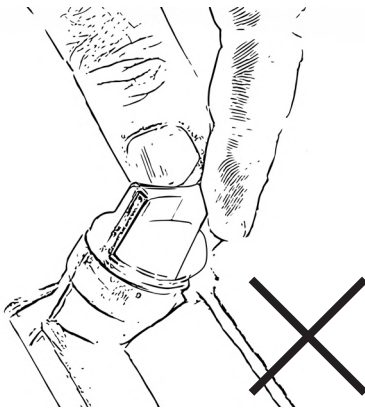

Figure 14
Never turn the oil filler plug with connected dipstick into the thread when reading the oil level. This leads to an incorrect measurement result, Fig. 14.
- Immerse the dipstick completely in the oil. Never turn the dipstick into the thread, Fig. 14.